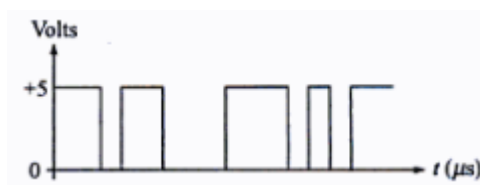

Figure 1.3: Ideal Digital Signal
- The voltage levels in an ideal digital circuit will have values of either +5 V dc or 0 V dc (Figure: 1.3).